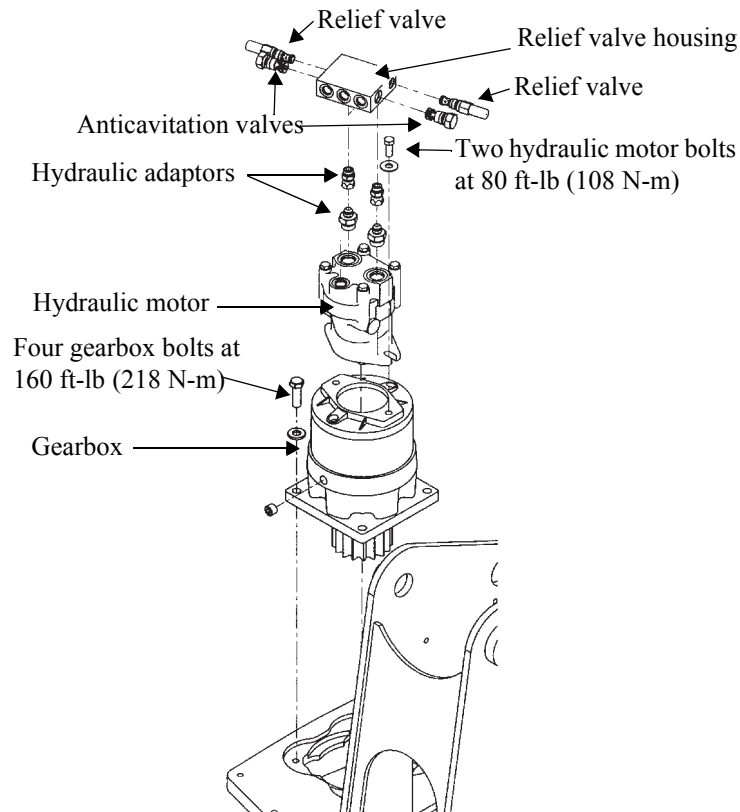

Figure 29 - Location of installation bolts
4. Check the two sets of installation bolts of the hydraulic swing assembly, shown in *Figure 29*, below, for the correct torque values.